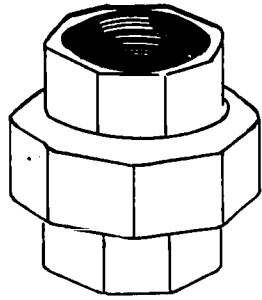
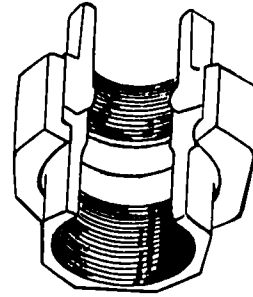

Fig 1-26. Pipe union.
Fig 1-27. Pipe union (cutaway view).
- **Union:** This fitting is used where there may be a future need to undo or disconnect a portion of the run of pipe without dismantling the whole run. By the simple loosening of the collar on this fitting the pipe run is disconnected. Figure 1-26 shows a pipe union. Figure 1-27 shows a cutaway view of a pipe union. A pipe union may also be used to join two runs of pipe at a straight line meeting point.